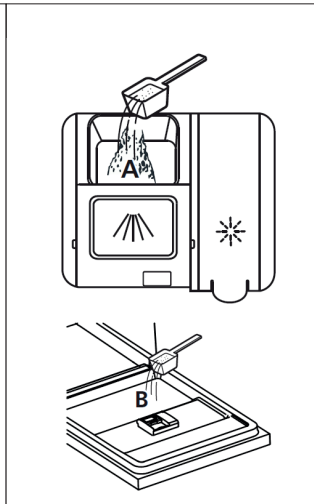

Fig. 7
2. Add detergent to the dispenser main chamber (A) just before the washing cycle (Fig. 7). For better cleaning results, especially if you have very dirty dishes, pour a small amount of detergent directly onto the inner door recess (B). The detergent thus added is already activated during the pre-wash phase.
- If they do not fit in the basket, you can put them on the stand in the upper rack. (Fig. 7).